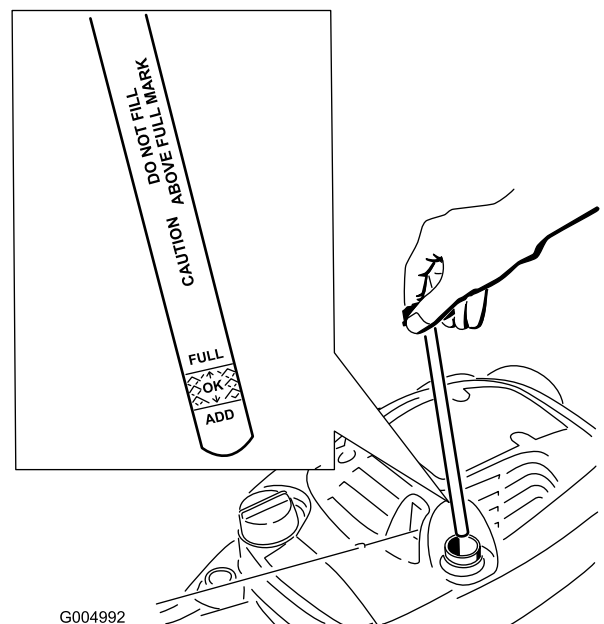

Figure 25
2. Retirez la jauge (Figure 25).